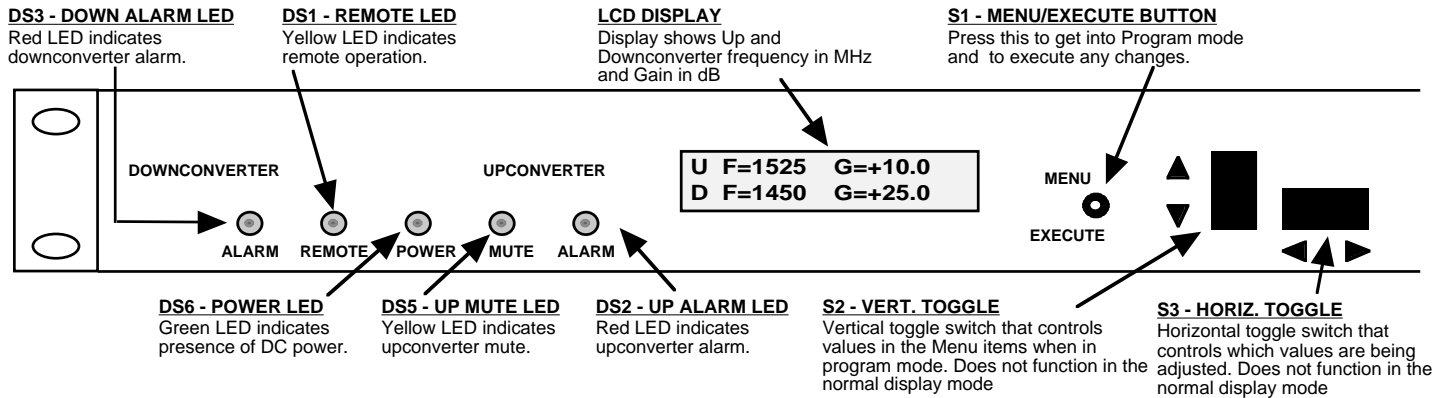

Figure 2.2 Model 2017-03 Front Panel Controls and Indicators
- 8.) Be sure DS6 (green, DC Power) is on and DS2 (red, Alarm) is off (Figure 2.2).
- 7.) Be sure DS6 (green, DC Power) is on and DS2 (red, Alarm) is off (Figure 2.2).
Alarm indications appear on the LEDs (see figure 2.2).